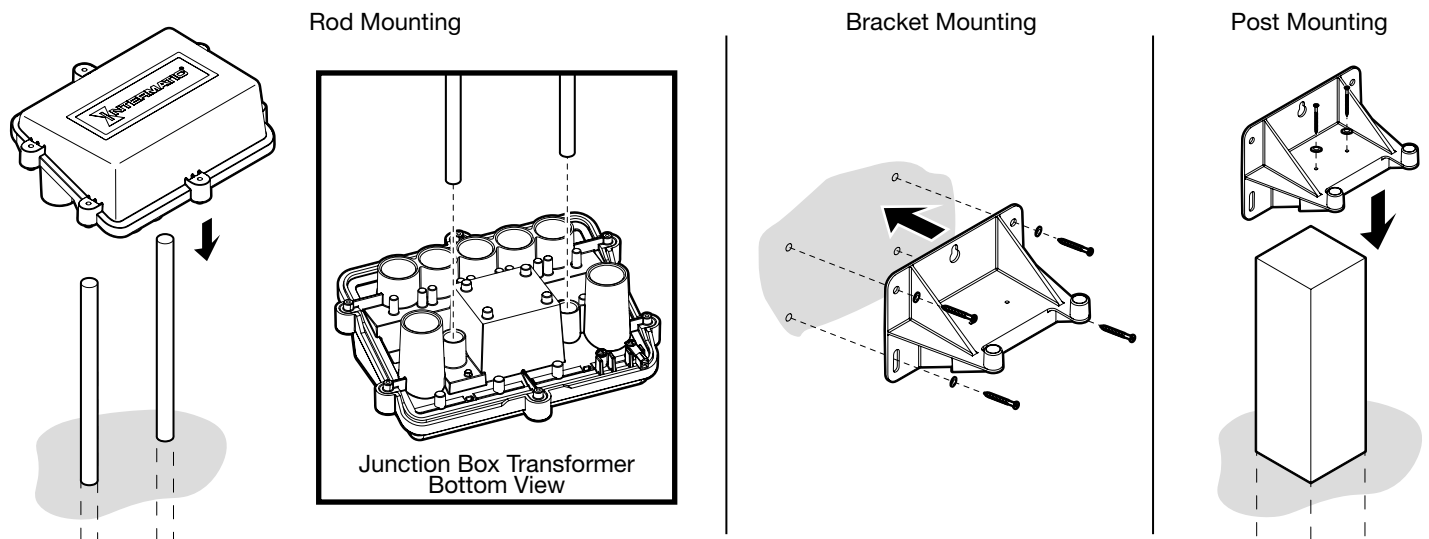

FIG. 2. Mounting Options
2. Securely mount the junction box transformer using $\frac{3}{4}$ " rods. See FIG. 2 for rod mounting information.